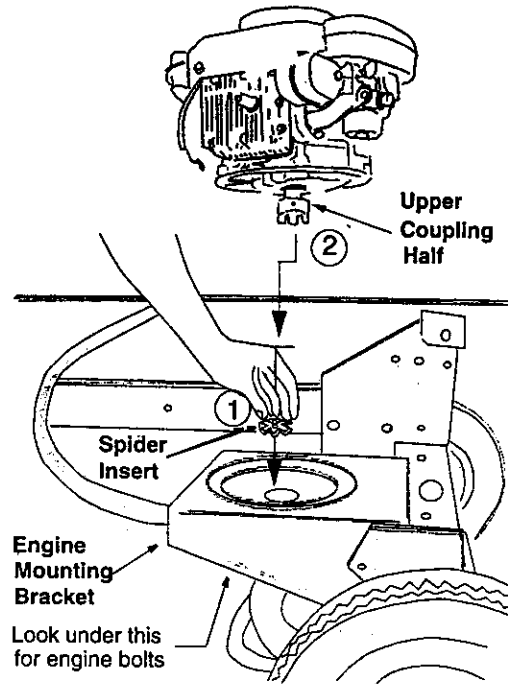

Figure 16
- Place a new "spider" insert into the pump coupling half. See Figure 16,1. Make sure the key is on the pump shaft. The key way in the lower coupling half has to fit over the key on the pump shaft.
be space between end of the engine and the coupling half. See Figure 16,2.